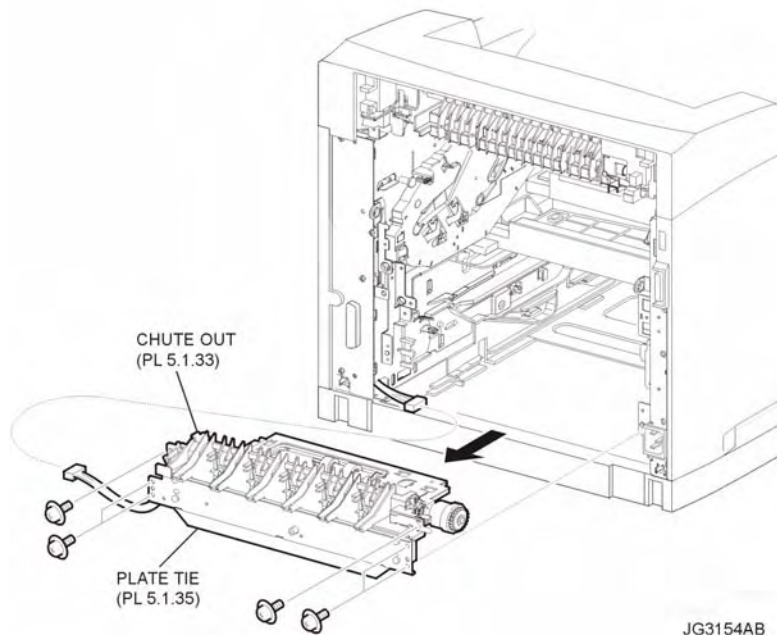

Figure 1. 550 Feeder Assembly
- 6) Disconnect the connector (P/J248) of the HARNESS ASSEMBLY TRAY 2 (PL 5.1) from the HARNESS ASSEMBLY CHUTE (PL 9.1) (Figure 1).
- 8) Remove the 4 screws (silver with flange, and spring washer 8mm) securing the PLATE TIE to the frame (Figure 1).
- 9) Remove the 2 screws (silver with flange, and spring washer 8mm) securing the CHUTE OUT (PL 5.1) to the frame (Figure 1).
- 2) Secure the CHUTE OUT (PL 5.1) to the frame using the 2 screws (silver with flange, and spring washer 8mm) (Figure 1).